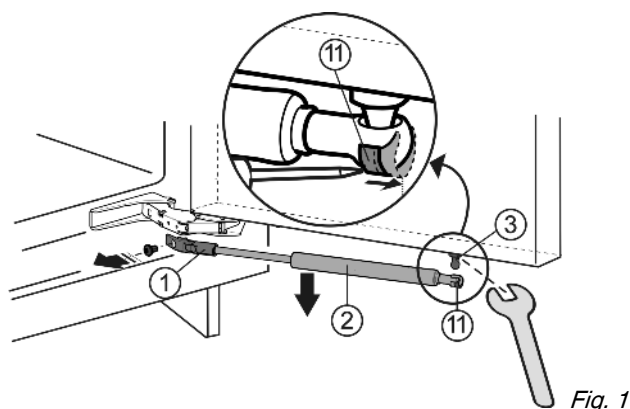

Fig. 1
- ▶ Use a screwdriver to slide the tension spring Fig. 1 (11) outwards.
- ▶ Remove the soft stop mechanism Fig. 1 (2) by pulling it downwards.
- ▶ Unscrew the retainer Fig. 1 (1).
- ▶ Unscrew the ball stud Fig. 1 (3) using an open-ended wrench.
- Slide the tension spring Fig. 1 (11) inwards again.